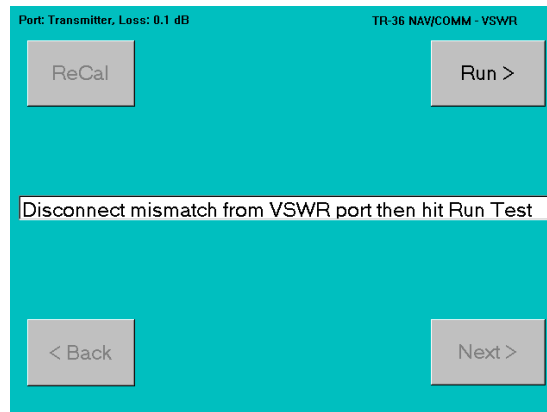

Figure 2-63. Test Set Prompts 2
8. After approximately 10-20 seconds, the Test Set will prompt the operator to remove the mismatch load. Select **Run >** a second time to complete alignment cycle (Figure 2-63).